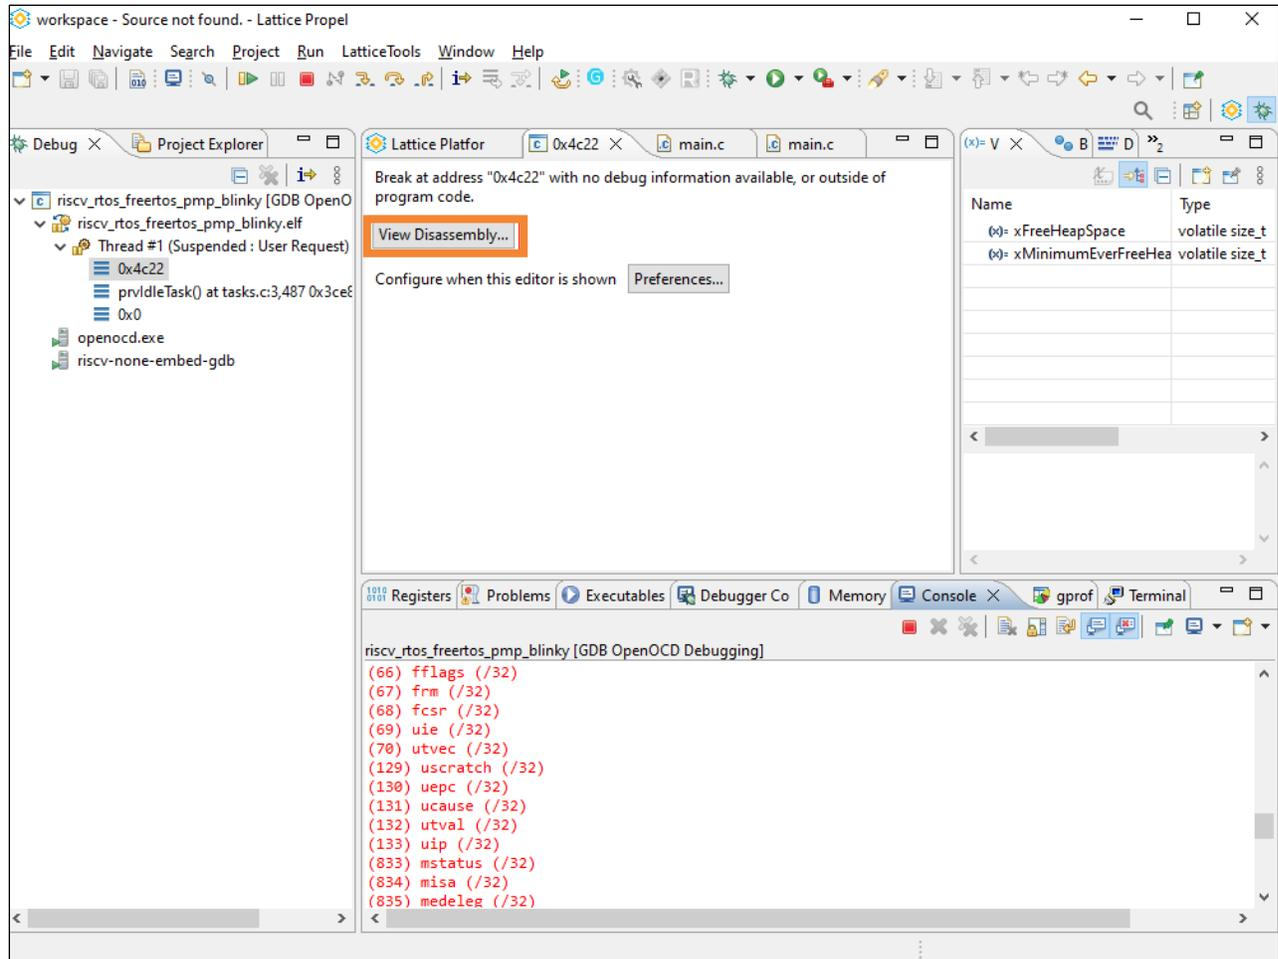

Figure E.3. Debug Perspective
- Wait for a few seconds for switching to the debug perspective, as shown in Figure E.3. Click **View Disassembly** to display assembly code or C code.